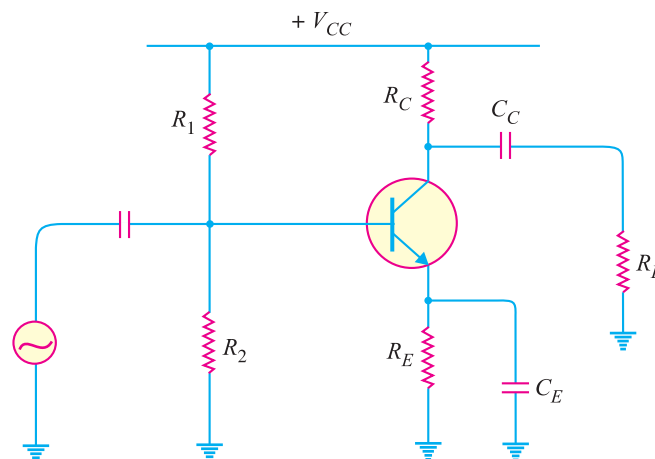

Fig. 10.46
3. Fig. 10.46 shows the transistor amplifier. If $R_C = 4 \text{ k}\Omega$, $R_E = 5 \text{ k}\Omega$ and $V_{CC} = 30 \text{ V}$, draw the d.c. load line.
4. Find the operating point for Fig. 10.46, $V_{CC} = 30 \text{ V}$, $R_1 = 20 \text{ k}\Omega$, $R_2 = 20 \text{ k}\Omega$, $R_C = 4 \text{ k}\Omega$, $R_E = 5 \text{ k}\Omega$. **[13.2V, 1.85mA]**
5. For the circuit shown in Fig. 10.46, find the voltage gain if $\beta = 100$, $R_C = 3 \text{ k}\Omega$, $R_L = 6 \text{ k}\Omega$ and $R_{in} = 2 \text{ k}\Omega$. **[100]**
6. In the circuit shown in Fig. 10.46, $V_{CC} = 30 \text{ V}$, $R_1 = 2 \text{ k}\Omega$, $R_2 = 1 \text{ k}\Omega$, $R_C = 2 \text{ k}\Omega$, $R_L = 2 \text{ k}\Omega$, $R_E = 1 \text{ k}\Omega$. Draw the d.c. and a.c. load lines.